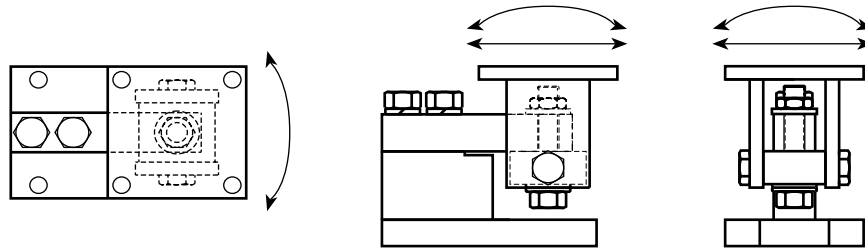

Figure 8-7. RL1800 and RL1855 HE Modules on Horizontal Cylindrical Tank
Figure 8-7 illustrates the RL1800 and RL1855 HE-HS modules with arrows indication allowable movement.
- A chair arrangement is attached to the trunnion block through pivot screws, and the load is applied to the top plate of this chair. This arrangement allows the chair to move in the directions indicated in Figure 8-7.